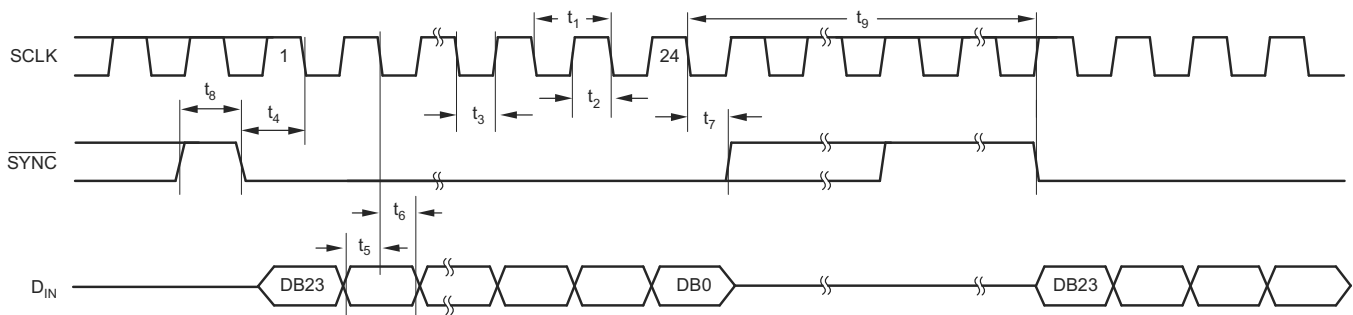

Figure 1. Serial Write Operation
- (1) All input signals are specified with tR = tF = 5 ns (10% to 90% of VDD) and timed from a voltage level of (VIL + VIH)/2.
- (2) See Serial Write Operation timing diagram Figure 1.
- (3) Maximum SCLK frequency is 30 MHz at VDD = 3.6 V to 5.5 V and 20 MHz at VDD = 2.7 V to 3.6 V.